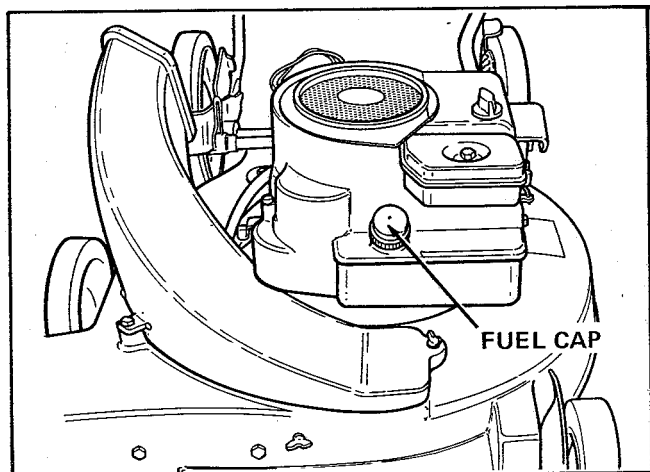

Figure 4. Fuel Cap
- b. Remove the fuel cap (see figure 4).